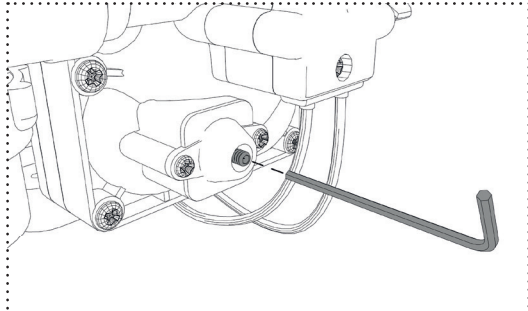

Fig. 11: Adjusting the bypass
1. Turn the screw counterclockwise all the way out (Fig. 11).